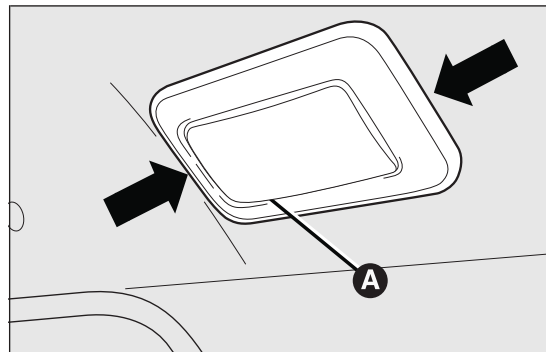

fig. 163
- ❑ extract the ceiling light A fig. 163 by operating in the points shown by the arrows;